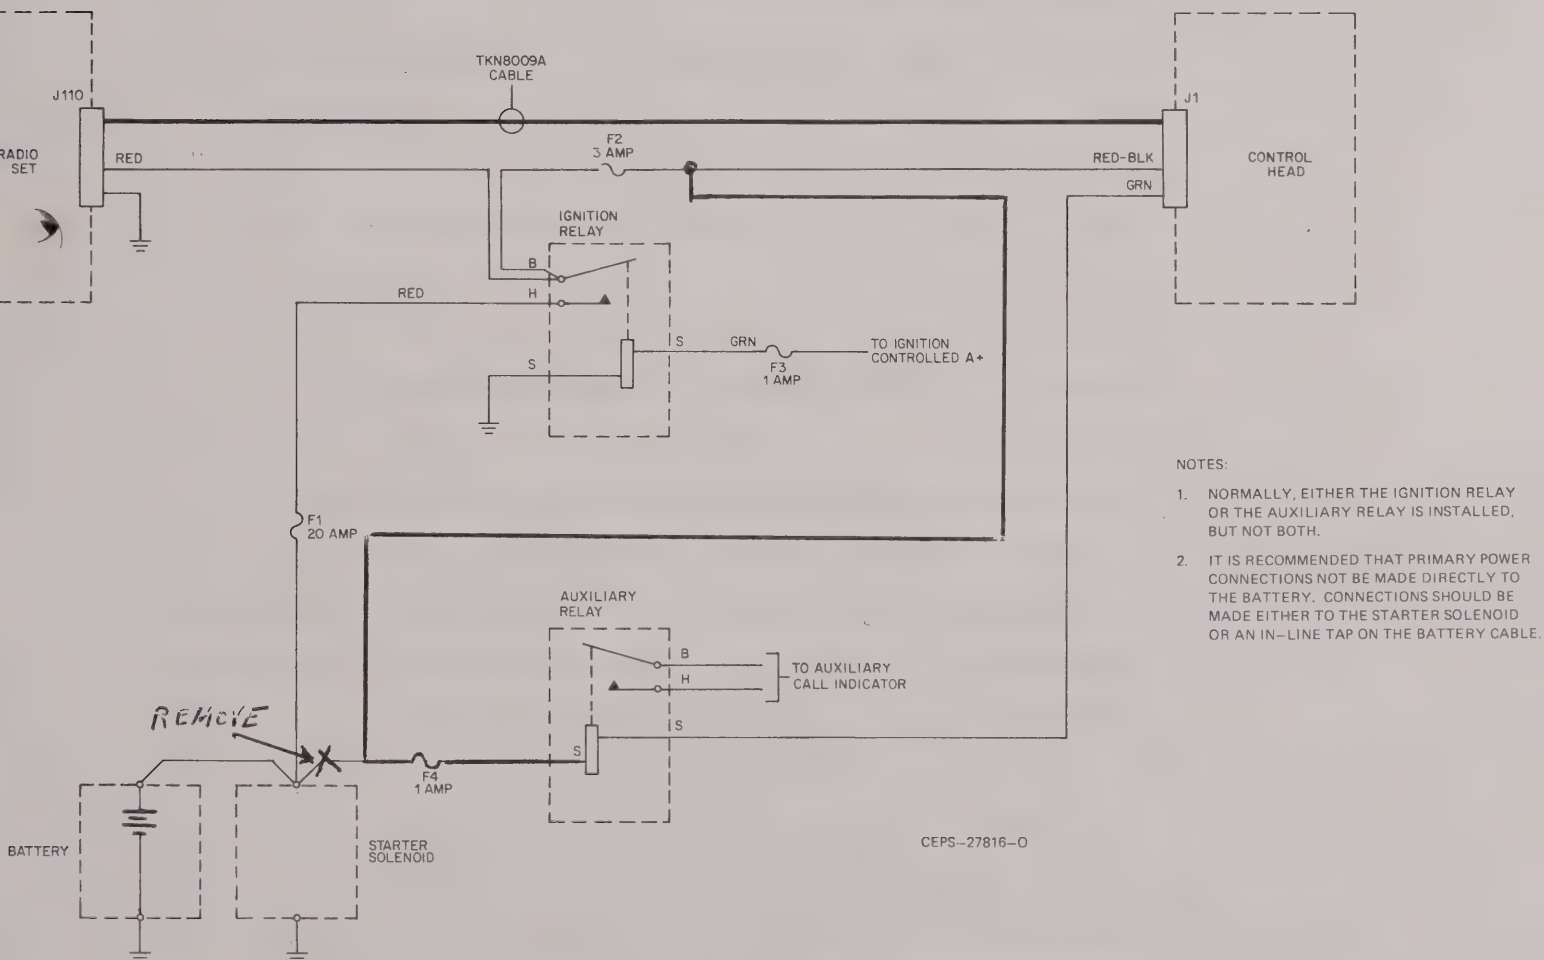

Figure V-1. Interconnect Diagram
3. Figure V-1 exhibits a corrected "Interconnect Diagram".